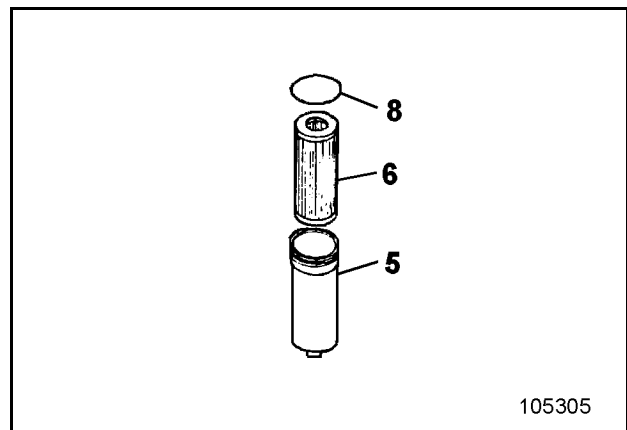

Fig. 3-50:
- Unscrew filter housing (5, Fig. 3-50:) by counterclockwise rotation. Pour out the oil.
- Withdraw filter element (6) from filter housing (5).
- Check filter housing (5) as well as used filter surface for debris.
- Clean filter housing (5) and the sealing face at the filter head with white spirit or paraffin oil.
- Check seals (8) and replace, if required.
- Screw in the filter housing (5) to stop. Then turn out the filter housing by an 1/8 turn so that the filter housing is not stuck due to pressure pulsation and can be easily loosened in case of maintenance works.